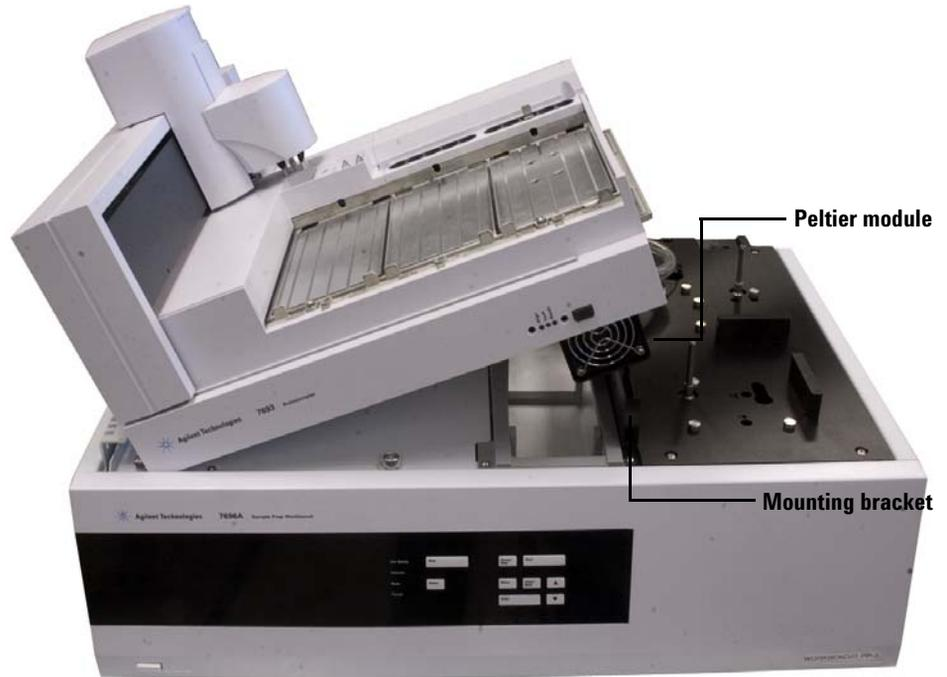

Figure 52 Propping the sample tray on the main frame with the Peltier module sitting on the mounting bracket
- 37 Prop the sample tray onto the main frame with the lower part of the Peltier module sitting on the main frame mounting bracket (Figure 52).